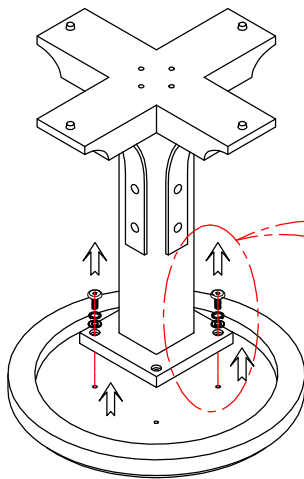

Figure 3
Step 1: Turn the table upside down on a clean soft surface and open the bolt connect the base on the top with allen key (E) as shown Fig 3